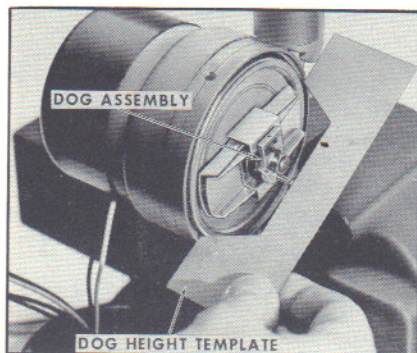

Fig. 2
2. Using template provided, measure distance between top of longest pin on dog to base of drive housing, Fig. 2. Adjust as necessary.
bly), measure distance between top of longest pin on dog to base of drive housing, Fig. 2. Adjust as necessary.